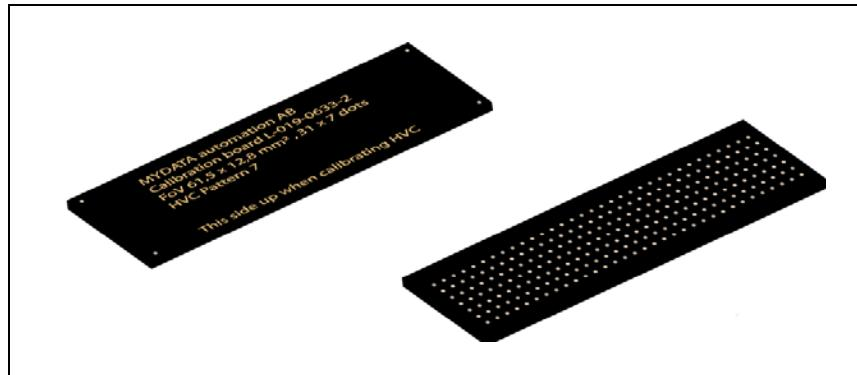

Figure 4-22. L-019-0633-2 Calibration plate.
- Calibration plate HYDRA camera (L-019-0633-2), see Figure 4-22.
- When prompted, place the calibration plate on the area calibration background (If not already done, insert the area calibration background as described in step 2 on page 4-10). The calibration plate should be placed on the calibration background with the text facing up, see Figure 4-22.